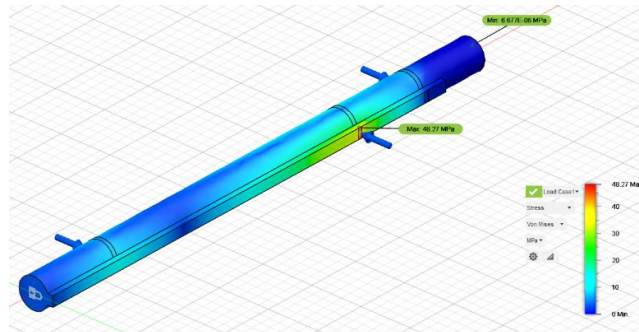

Figure 6. FEA setup and results for the transmission output shaft.
This project was a group class project for the Mechanical Design II course at UIUC. The goal of this project is to (1) design a three-speed transmission using at least one planetary gearset, (2) lift a light weight as fast as possible using a high-speed drive, and (3) lift as heavy a weight as possible using a low-speed / high-torque drive. The reaction forces on the transmission housing were analyzed using solid mechanics principles, and failure analysis was conducted on main transmission components (e.g., Figure 6, shafts) using FEA.